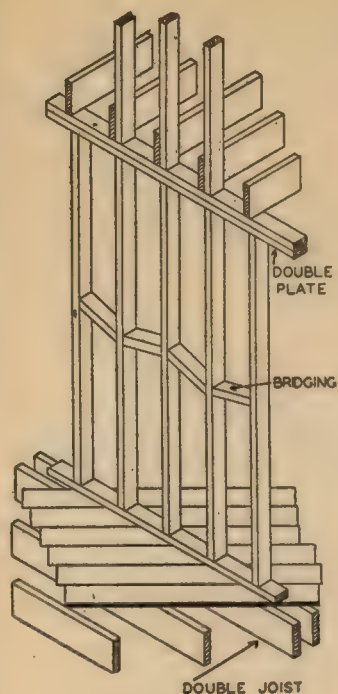

FIGURE 3
**STUD BRIDGING:**—Single bridging shall be placed between studs in the middle of each story height. Bridging shall be same width as studs. (*See Figure 3.*)
**DOUBLE JOISTS:**—Two joists shall be placed under partitions which carry a load from the floor above. These joists shall be separated by solid wood bridging so that service pipes may enter the partition without dangerous cutting of the joists. Joists shall be double around chimneys and other similar openings. (*See Figure 3.*)